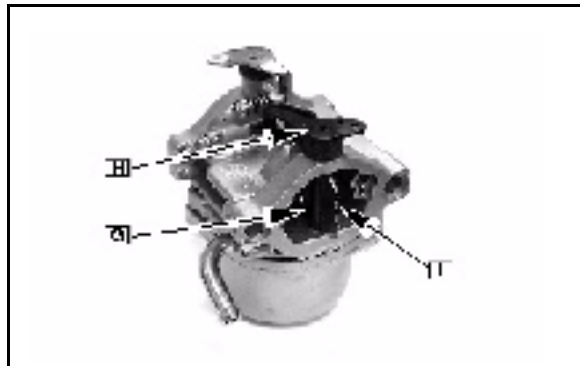

Fig. 142
7. Insert the choke plate ([G]) into the choke shaft ([H]) with the dimples ([I] Fig. 142) toward the air inlet side of the carburetor.